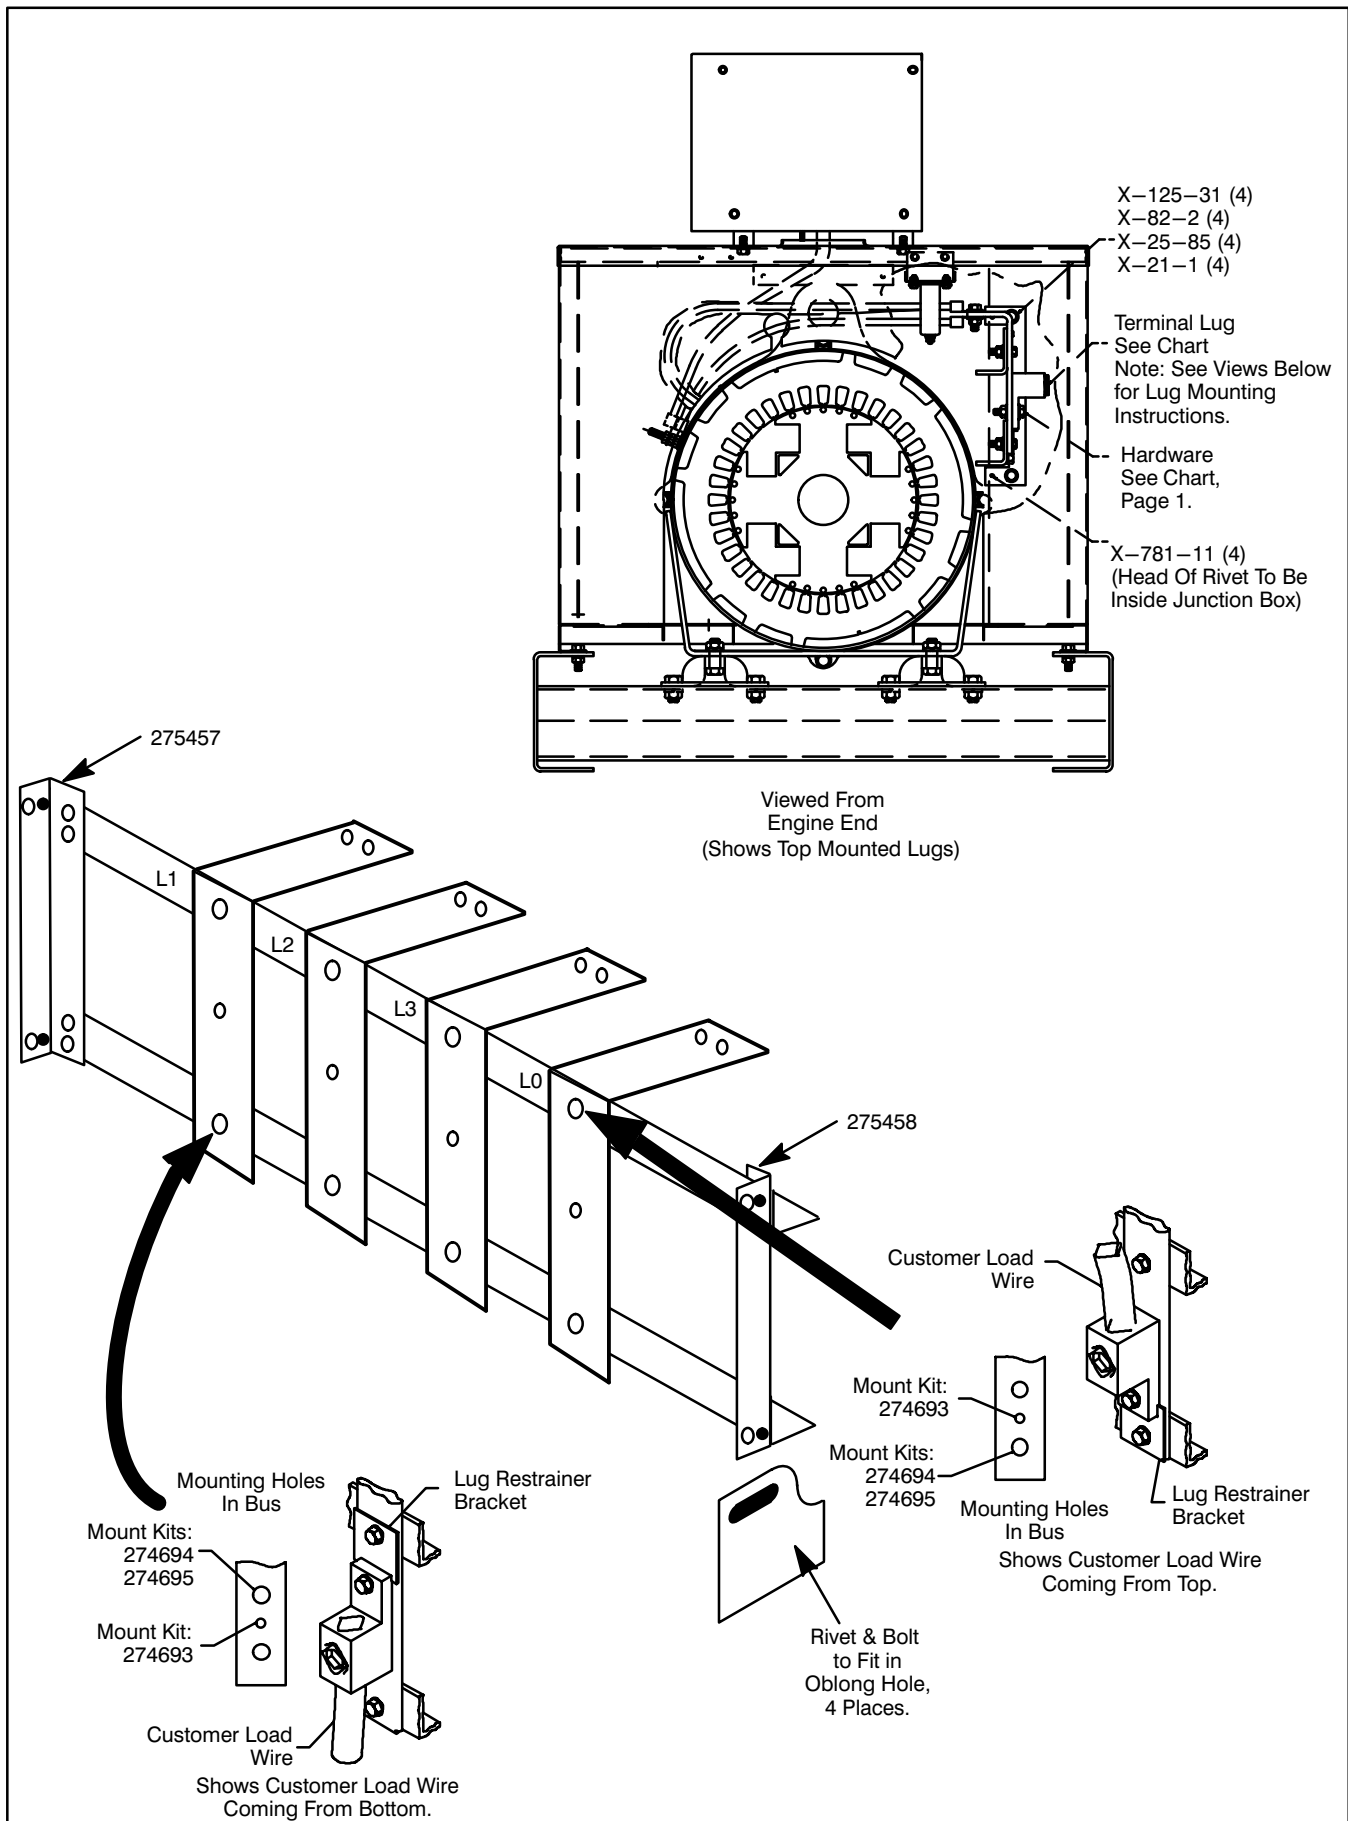

Figure 1. Assembly
- Mount terminal lugs to the bus bars in either upper, middle or lower, position as shown in Figures 1 and 2.